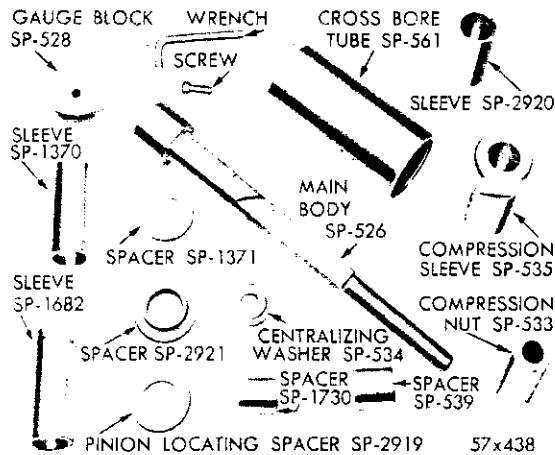
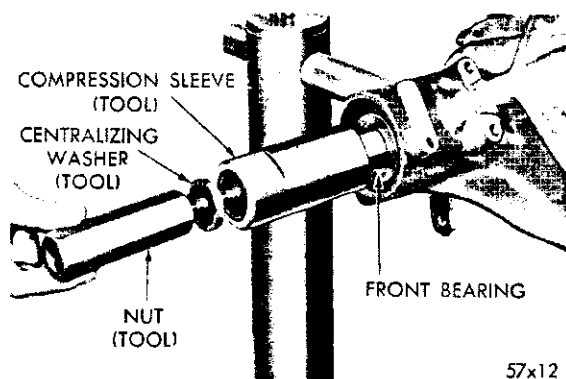

Fig. 16—Tool Set C-758
Fig. 17—Compression Sleeve and Centralizing Washer in Position with Tool C-758
(1) Place the bearing cups squarely in position. Assemble Tool C-758 (Fig. 16) by placing spacer SP-2919 (on Chrysler Newport SC-1) followed by the rear pinion bearing cone over the main screw of the tool and inserting it into the carrier from the gear side (Fig. 17).